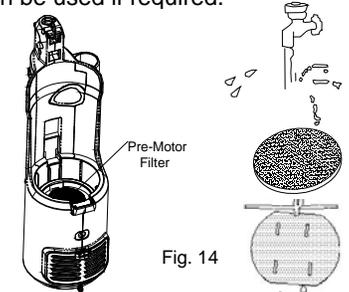

Fig. 14
- Remove the dust cup container and the HEPA filter to remove the pre-motor filter. (Fig. 14)